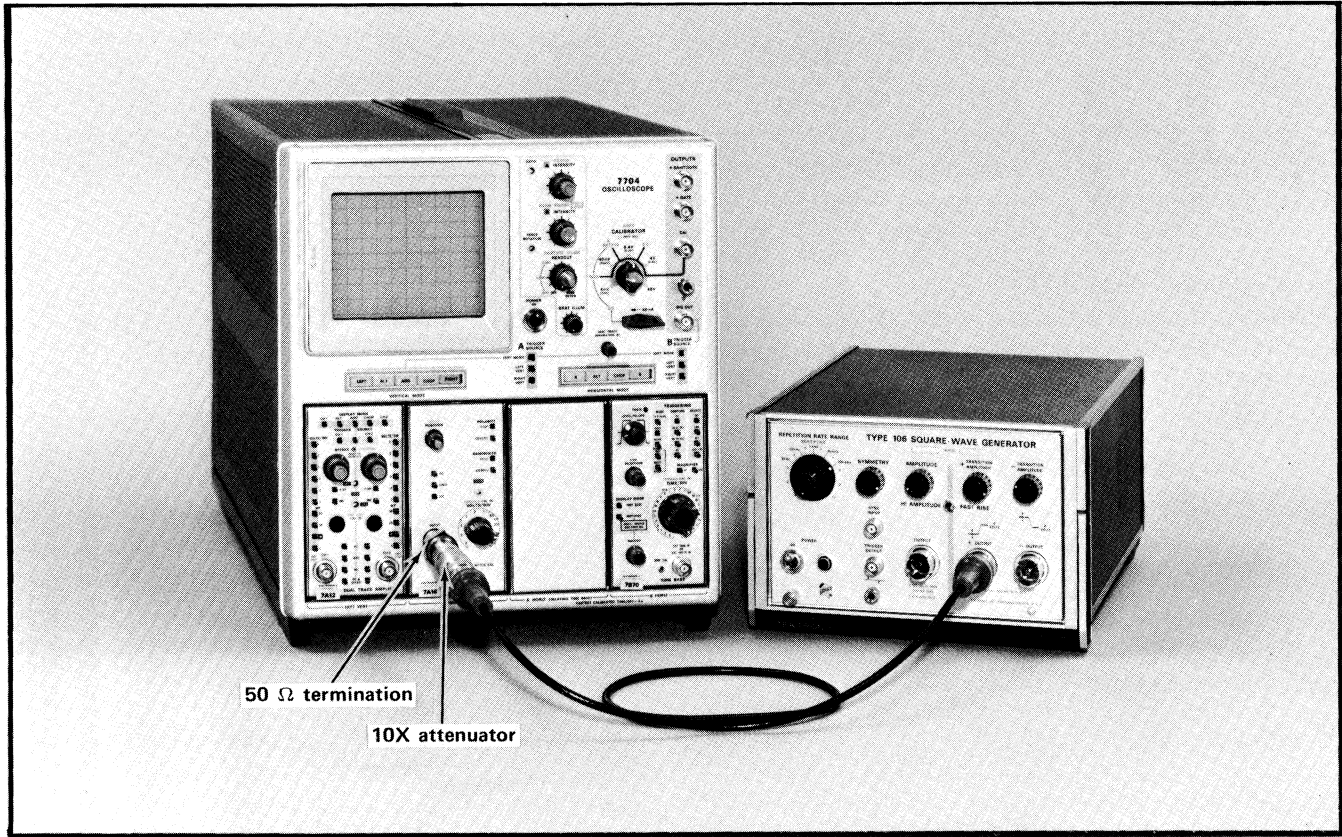

Fig. 4-3. Equipment setup for step 6 (reference waveform).
a. Equipment setup is shown in Fig. 4-3.